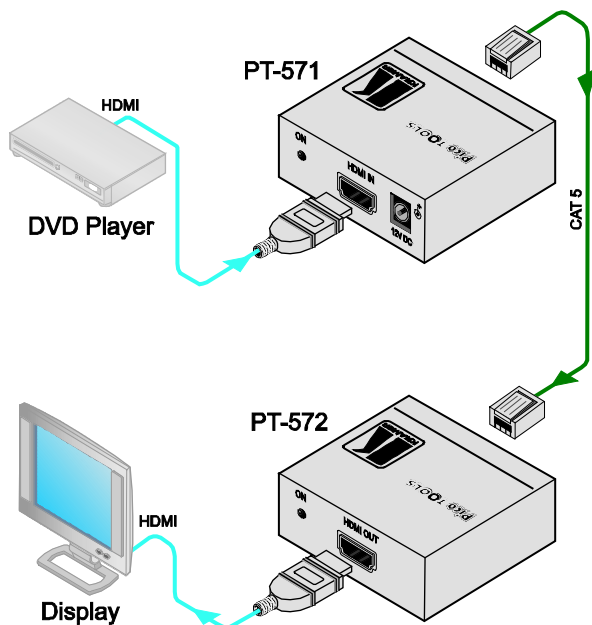

Figure 3: Connecting the PT-571 / PT-572 HDMI Line Transmitter/Receiver
To connect the **PT-571** to the **PT-572**, as illustrated in the example in Figure 3, do the following:
4. Connect the 12V DC power adapter to the power socket on the **PT-571** and connect the adapter to the mains electricity (not shown in Figure 3).